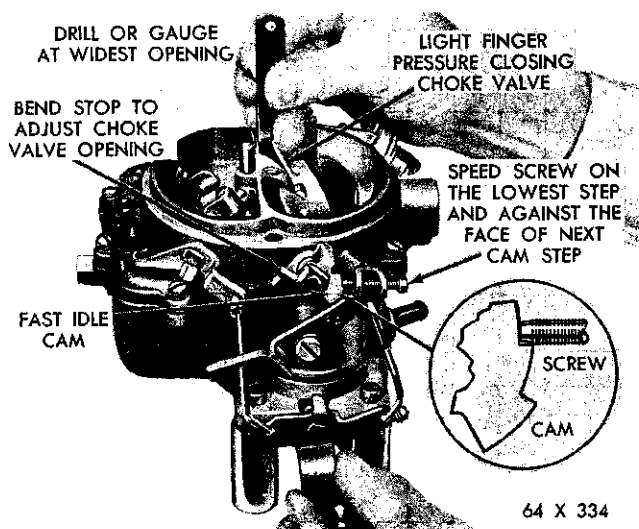

Fig. 10—Fast Idle Cam Position Adjustment
(1) With the fast idle speed adjusting screw contacting the lowest step on the fast idle cam, as shown in Figure 10, move the choke valve toward the closed position with light pressure. Insert a  $\frac{15}{64}$  inch drill or gauge between the choke valve and the wall of the air horn.
(2) An adjustment will be necessary if a slight drag is not obtained as the drill or gauge is being removed.
(3) If an adjustment is necessary, bend the stop on the choke shaft, using Tool T109-22 until the correct valve opening has been obtained. (Refer to Fig. 10.)